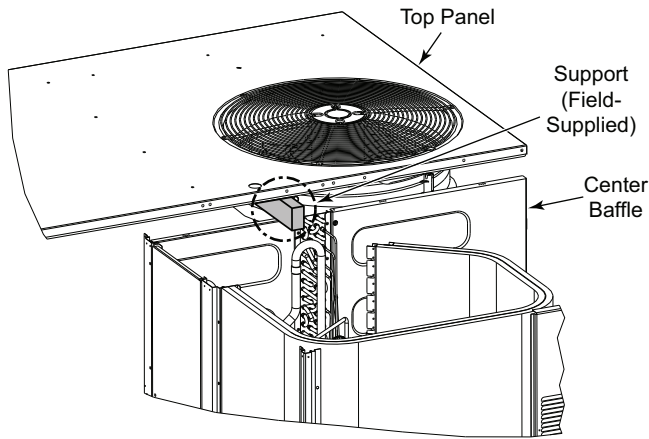

Fig. 17 — Top Panel Position
3. Lift and rotate the top panel at the condenser fan end and rotate the panel 90 degrees. Support the top panel so it remains level while resting on the condenser fan as shown in Fig. 17.